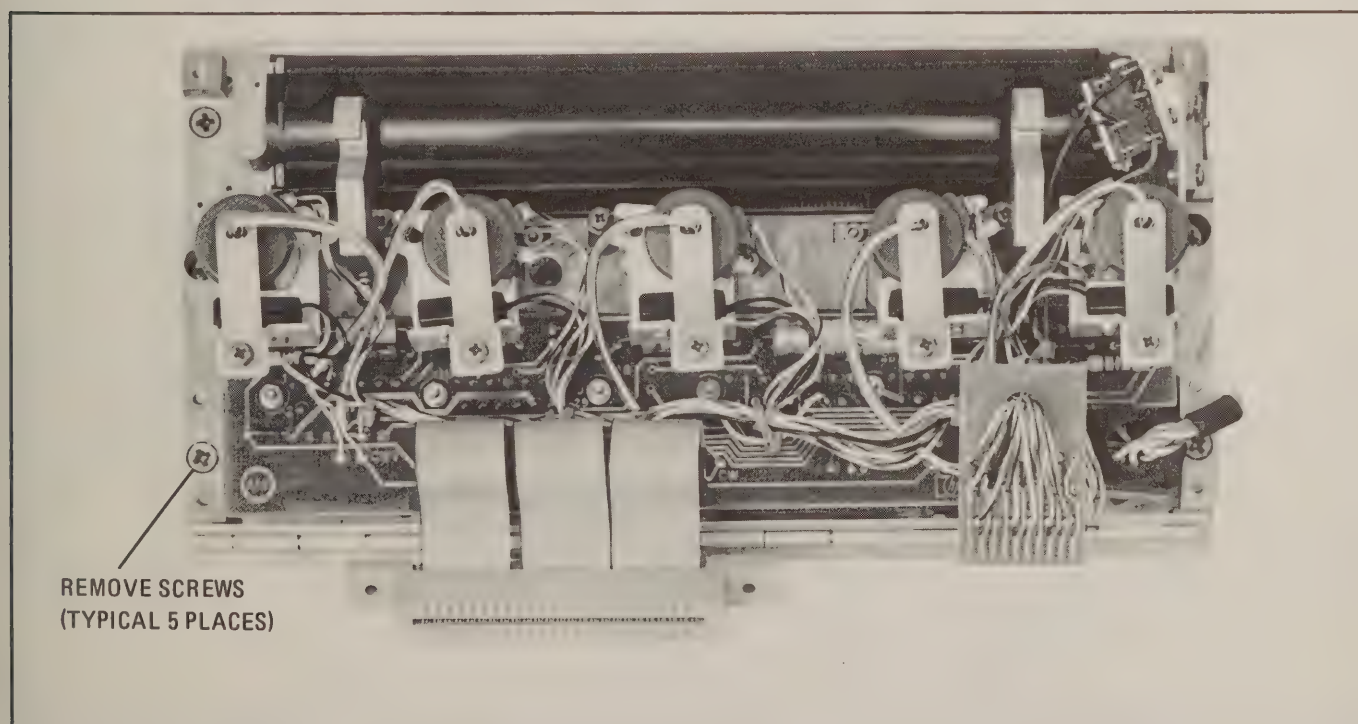

Figure 8-2. Removing Dial Frame From Front Panel
- c. Remove five screws holding dial frame to front panel (Figure 8-2).